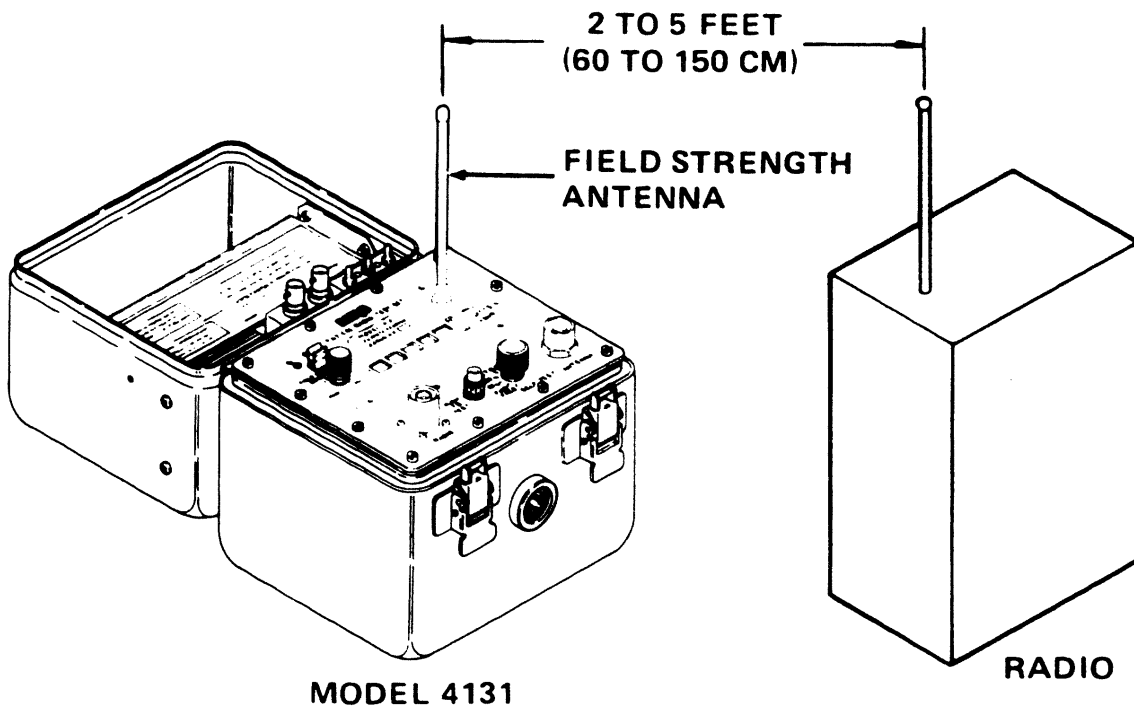

Figure 2-2. Radiated Field Management Setup
- (3) If the load resistor is used as the RF line termination, position the case lid to ensure air convection around the lid will aid in heat dissipation.
e. *Radiated Field Measurements.* There are no cables connected to the Model 4131 for this test setup. Position the radio and test set as illustrated in figure 2-2, and observe the following considerations.
- (1) Release the field strength antenna from its retaining clip and place it in its upright position.
- (2) As shown in figure 2-2, the radio set being tested should be located near the Model 4131. When testing an individual radio set, the distance between the antenna of the